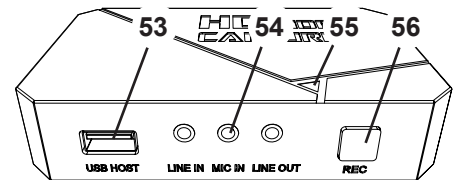

Fig. 25
- ⇒ Press the REC button (56, Fig. 25) on the HDMI-Video-Recorder.
- ♦ The signal LED (55, Fig. 25) turns red.
⇒ Plug the microphone cable of the headset (pink plug) into the MIC IN connection (54, Fig. 25) (pink mark).